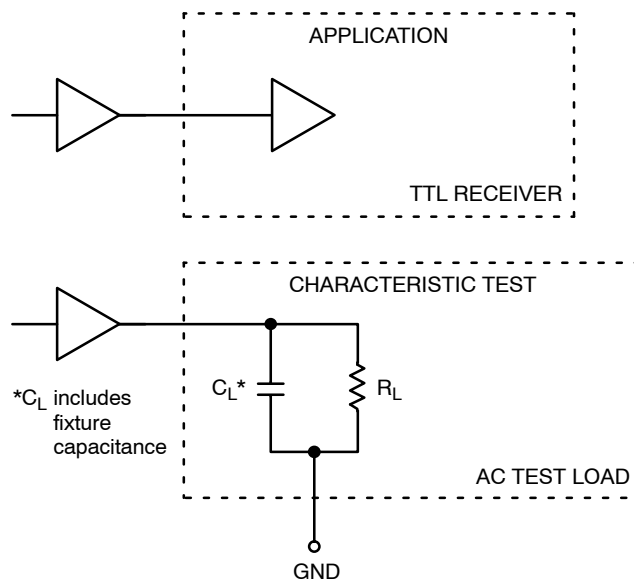

Figure 3. TTL Output Loading Used for Device Evaluation
1. Measured with a 750 mV 50% duty-cycle clock source. $R_L = 500 \Omega$ to GND and $C_L = 20 \text{ pF}$ to GND. Refer to Figure 3.